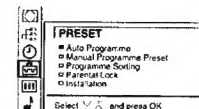

Fig. 3
- Select the symbol \square for «Preset» with Δ or ∇ and press OK. The PRESET menu appears. (See Fig. 3.)